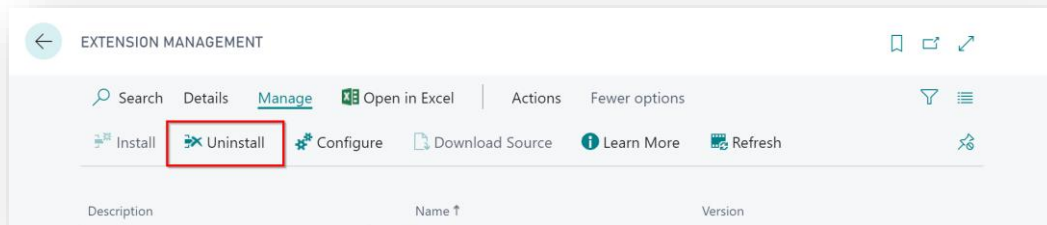

Figure 5-2
3. Select the **SD BI Inventory Cockpit** App and choose the **Uninstall** Action (*Figure 5-2*).